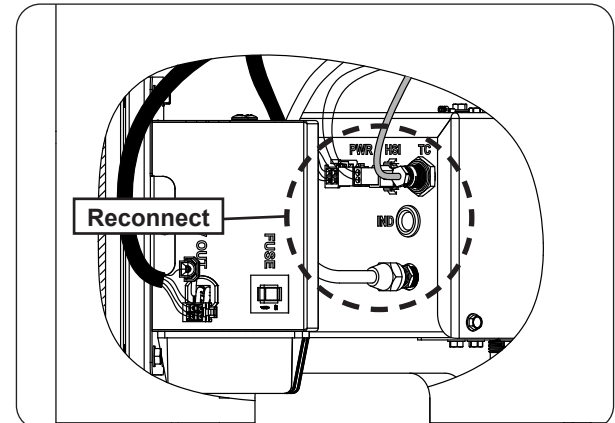

Fig. 29-2 Reconnect pilot line, thermocouple, and hot surface igniter from control box
6. Reconnect the pilot line, thermocouple, and hot surface igniter (coming from the burner assembly) to the control box (see Fig. 29-2).